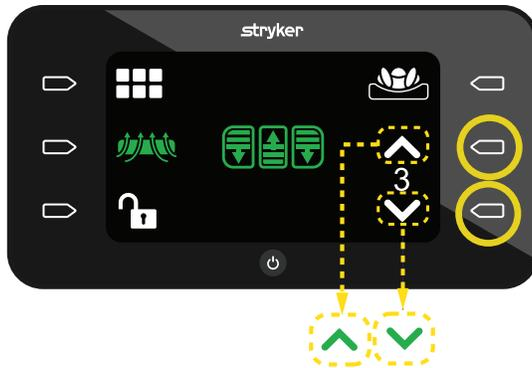

Figure 35 – ALP mode level 3
4. Press the **Action** button next to the **Increase** or **Decrease** icons to increase or decrease the ALP level from 1 to 5 (Figure 35).